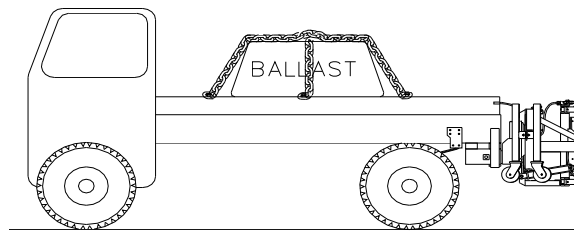

Figure 9
- Ballast and other heavy objects **MUST BE ADEQUATELY ANCHORED** to the truck to prevent shifting during an impact (See Figure 9). (The force on the tie-down straps could be 20 times the weight of the ballast.)